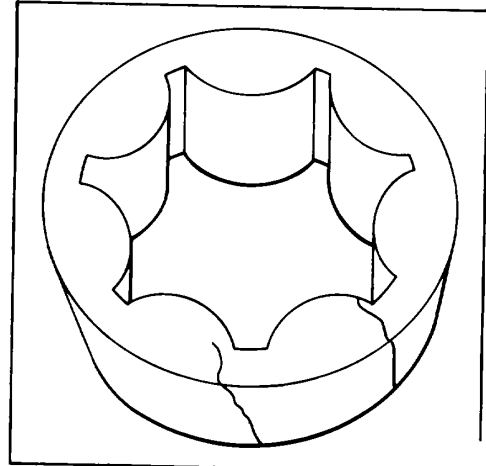

Figure 155.
31. Inspect charge pump inner and outer rotor (47) for damage or excess wear. If inner or outer rotor are scratched or galled, the gears must be replaced as a set. See Fig. 155.